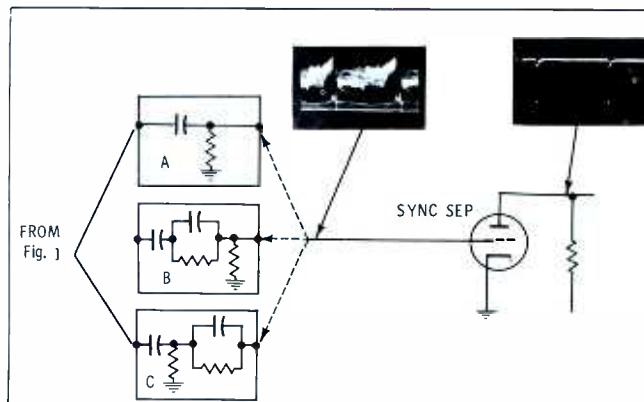

Fig. 2. Output signal from single-tube sync separator.
Between the takeoff point and the sync-separator grid, several different circuit arrangements are employed—some are shown as A, B, and C in Fig. 2. The simplest (A) consists of only a blocking capacitor and a grid-return resistor; with this network, the signal at the grid is a slightly attenuated replica of W1. When a more complex cou-
The output signal obtained from a single sync separator stage is as shown in Fig. 2 as W3. The amplitude of W3 is normally about twice the amplitude at the input and of negative polarity. When the composite signal has been clipped as in W2, output signal W3 will have extremely even sync tips. While W3 shows vertical and horizontal pulses as equal, in some circuits one or the other (usually vertical) may be 25% greater.
The scope in these cases was instrumental in locating faulty components, first by relating picture troubles to waveform distortions, and second by associating components with the circuit points where distortions originate. Some associations are not so clear. A G-E portable with pulling at the top—Fig. 8A—showed the distorted sync waveform in Fig. 8B at the output of its single-stage triode separator (a circuit similar to Fig. 2). At the separator input and at the video amplifier output signal, distortion was found as shown in Fig. 8C. Further scoping revealed the boost capacitor to be defective.